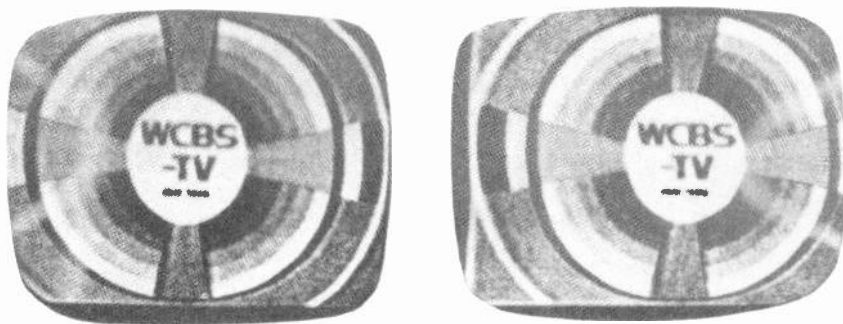

Fig. 4-F. *Foldover can appear at left side of screen (pix at left) or at right side (see pix at the right).*
**SYMPTOMS:** Foldover appears on the left or right side of the picture and can be shifted slightly by adjusting the horizontal-hold control or the phasing slug on some types of horizontal-oscillator transformers. See Fig. 4-F.